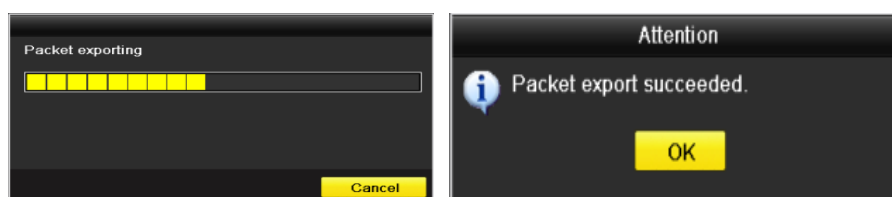

Figure 9-18 Packet Export Attention
Step 5 After the exporting is complete, click **OK** to finish the packet export, as shown in Figure 9-18.